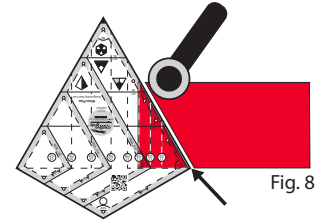

Fig. 8
1. Square up the left edge of the fabric. Place the ruler on the fabric, lining up the Top Triangle (TT) lines with the left edge of the fabric - in this case, 6½" and the Triangle Base line on the bottom edge of the strip. Cut along the right angled edge. Fig. 8